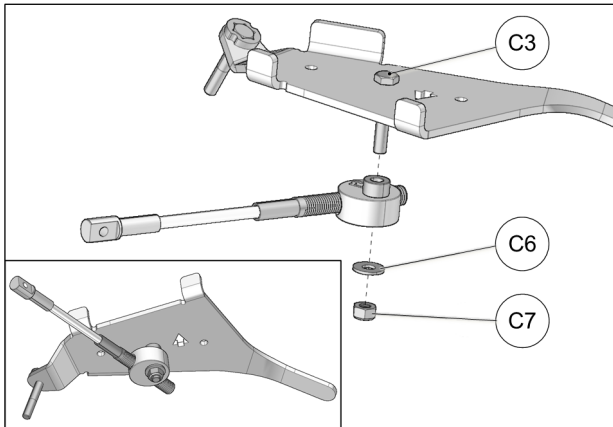

Fig. 17
9. Slide aluminum disk of steering limiter cable assembly over bolt (C3) previously installed in step 7. Use supplied washer (C6) and nut (C7) to secure steering limiter assembly in place. Tighten nut to 50 N•m [37 lb•ft]. Refer to Fig. 17